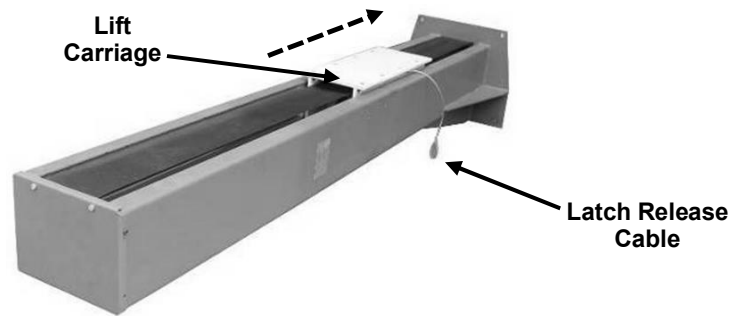

Fig. 3.
- 2) With column still in the horizontal position, ensure the lift carriage positioned to base of column. If not, slide carriage to base, while pulling the latch release cable at the same time. This will assist when standing column into position, by lowering the column's center-of-gravity. **Fig. 3.**